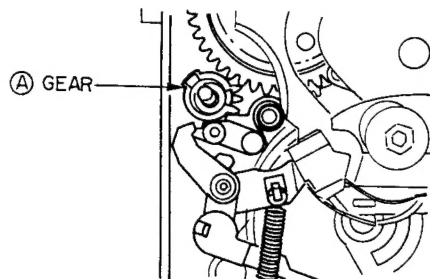

Fig. 3-39
14. Reassemble in the reverse order for installation. When reinstalling the REGULATOR ARM and TENSION ARM, take care not to change the timing of the A GEAR (refer to Fig. 3-39).